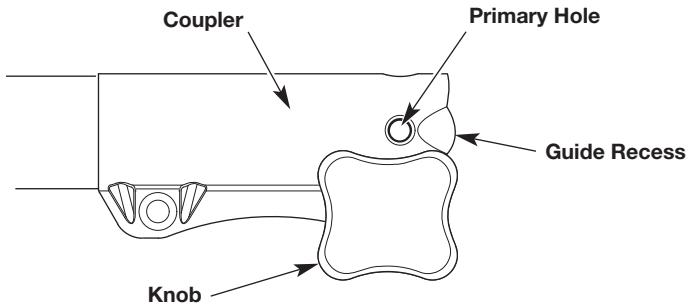
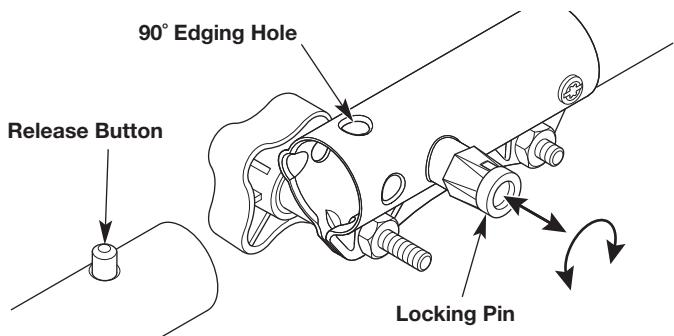

Fig. 2
Fig. 3
1. Turn the knob counterclockwise to loosen the coupler (Fig. 2).
2. Pull the locking pin out and turn it 90 degrees (Fig. 3), either clockwise or counterclockwise.
- a. If the attachment has a release button (Fig. 3), snap it into the primary hole (Fig. 2), unless noted otherwise in the operator's manual for the attachment.
- NOTE:** Aligning the release button with the guide recess will help installation (Fig. 2).
- a. If the attachment has a release button, press and hold the release button (Fig. 3).
- b. If the attachment does not have a release button, pull the locking pin out and turn it 90 degrees (Fig. 3), either clockwise or counterclockwise.